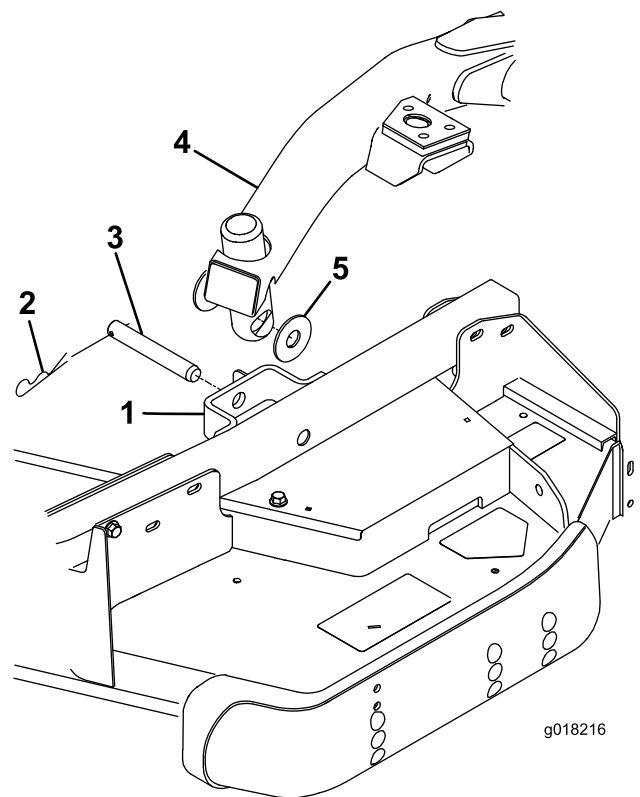

Figure 4
1. Remove the 2 thrust washers, clevis pin and hairpin cotter from each castor arm bracket on the cutting unit (Figure 4).
3. Press the lift switch forward to the Float position. Push a lift arm down until the holes in the lift arm line up with the holes in the castor arm bracket (Figure 4).
4. Secure the lift arm to the castor arm with the 2 thrust washers, clevis pin and hair pin cotter. Position the thrust washers between the lift arm and the castor arm bracket (Figure 4). Insert end of cotter pin into the slot in the castor arm tab to retain cotter pin.